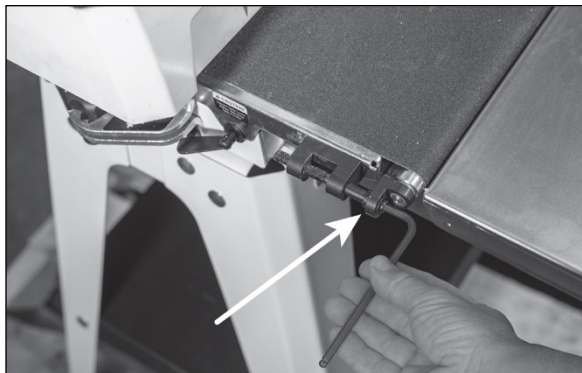

Figure 8-2: Belt Tension Adjustment
2. Adjust take-up screw nuts (Figure 8-2) with 5mm hex wrench. Do this on both sides of conveyor to obtain approximately equal tension on both sides of sanding belt when taut.